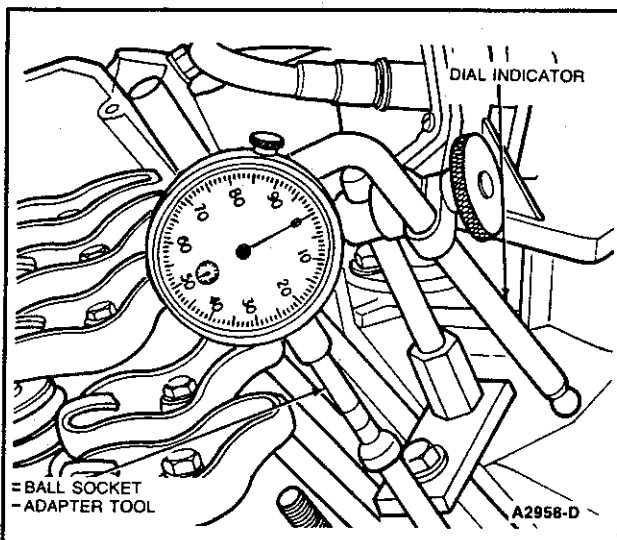

Figure 7 Typical Camshaft Lobe Lift Hydraulic Tappet — V-8 Engines with Pedestal Mounted Rocker Arms
3. Ensure the push rod is in the valve tappet socket. Install Dial Indicator or equivalent, and Dial Indicator Bracketry or equivalent, so that the actuating point of the indicator is in the push rod socket or the Cup Shaped Adapter is on the end of the push rod and in the same plane as the push rod movement (Figure 7).